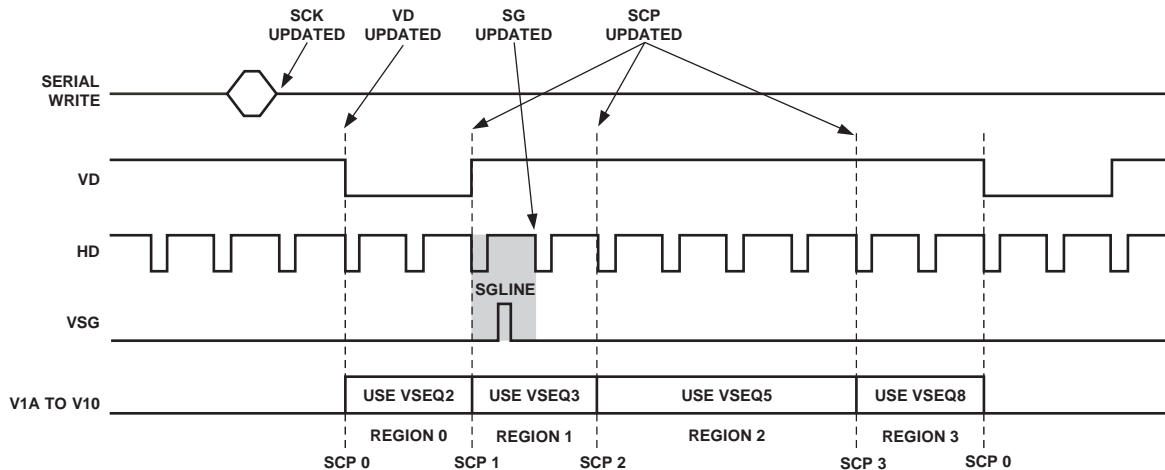

Figure 86. Register Update Locations (See Table 44 for Definitions)
- **SCP Updated**—All V-pattern and V-sequence registers are updated at the next SCP where they will be used. For example, in Figure 86, this field has selected Region 1 to use V-Sequence 3 for the vertical outputs; therefore, a write to a V-Sequence 3 or V-pattern group register, which is referenced by V-Sequence 3, is updated at SCP 1. If there are multiple writes to the same register, only the last one before SCP1 is updated. Likewise, a register write to a V-Sequence 5 register is updated at SCP 2, and a register write to a V-Sequence 8 register is updated at SCP 3.